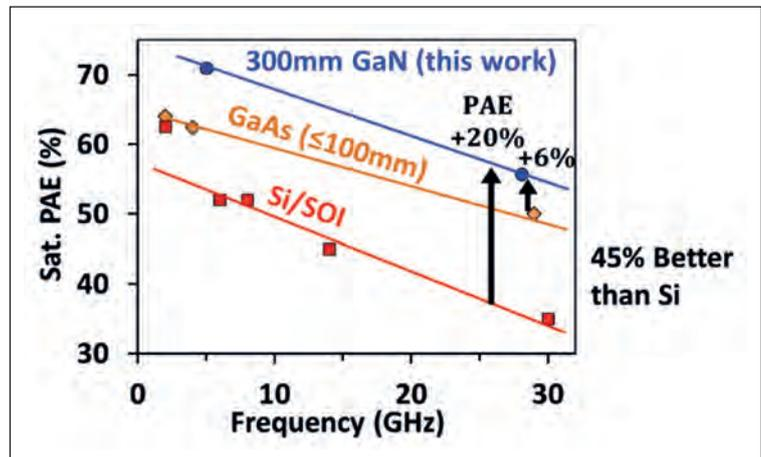

Figure 6. Intel's high- κ e-mode GaN NMOS transistor significantly outperforms GaAs and silicon/SOI across a frequency range spanning 1 GHz to 30 GHz.
Our devices also deliver excellent RF performance. Our high- κ GaN NMOS transistor significantly outperforms those based on GaAs and silicon/SOI transistors in power-added efficiency across a wide frequency range that spans 1 GHz to 30 GHz (see Figure 6). Due to the excellent knee voltage and on-resistance, efficient power amplifier (PA) operation is realised at drain voltages as low as 1 V (see Figure 7).